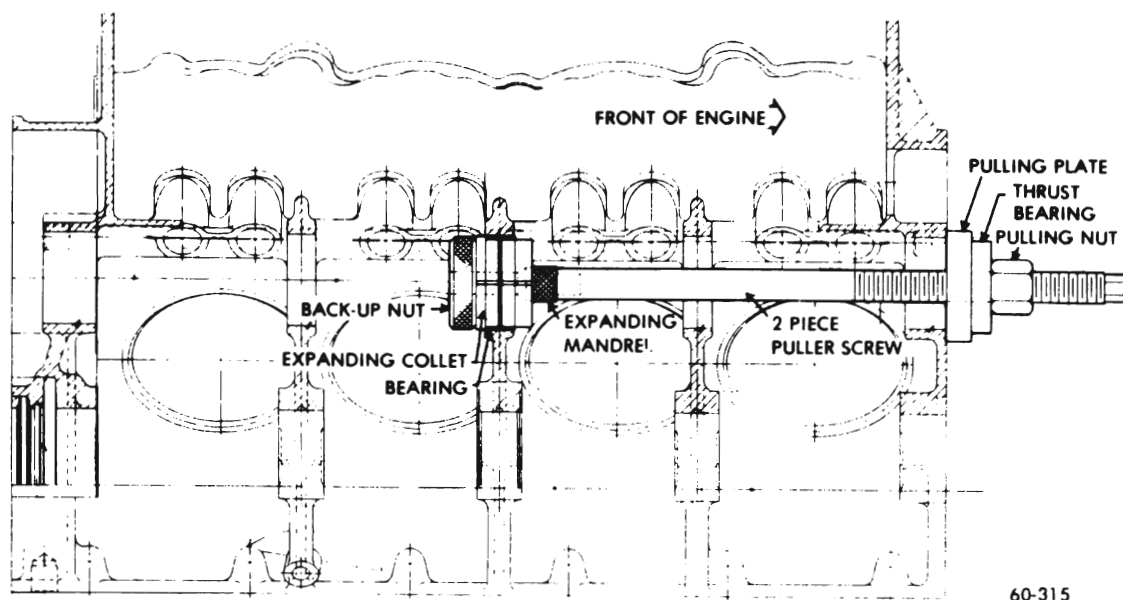

Figure 60-57 - Removing and Installing Camshaft Bearings
8. Bearing can then be removed by turning pulling nut. See Figure 60-57.